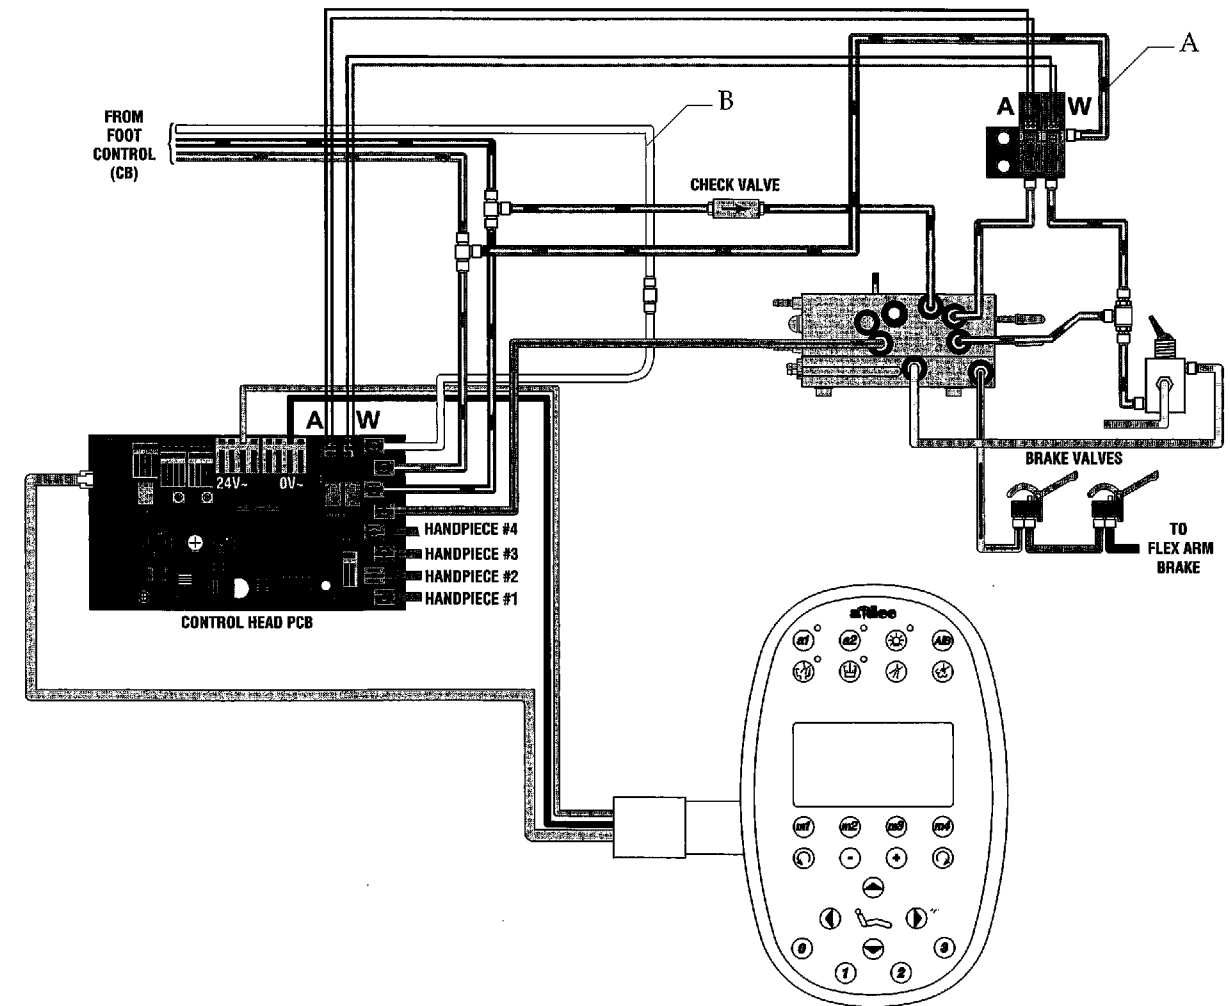

Figure 102. Connecting the tubing to the deluxe touchpad. (A) air coolant tubing; (B) water coolant activation tubing
1. Reconnect the two ends of the water coolant activation tubing (clear tubing in the control head) using an inline barb (see Figure 102).